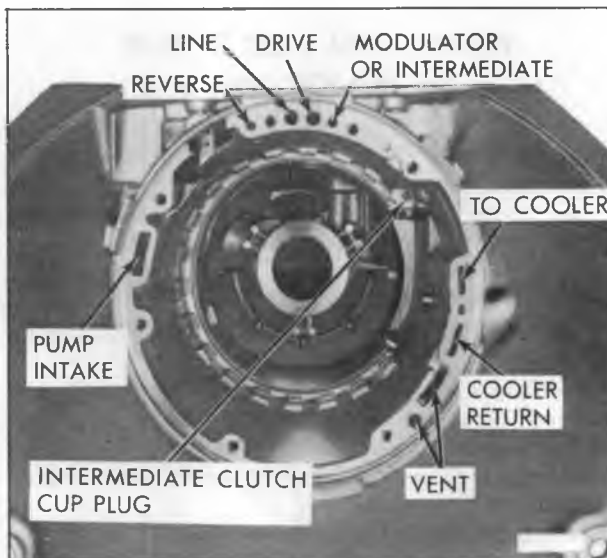

Figure 103—Case Passage Identification—Front View
Case Assembly Inspection (Figs. 103 and 104)
3. Inspect for missing or loose intermediate clutch cup plug (fig. 103). If loose or missing, replace as directed later under "Case Assembly Repairs."
2. Make sure intermediate clutch cup plug hole (fig. 103) is free of foreign material such as dirt, chips, etc.